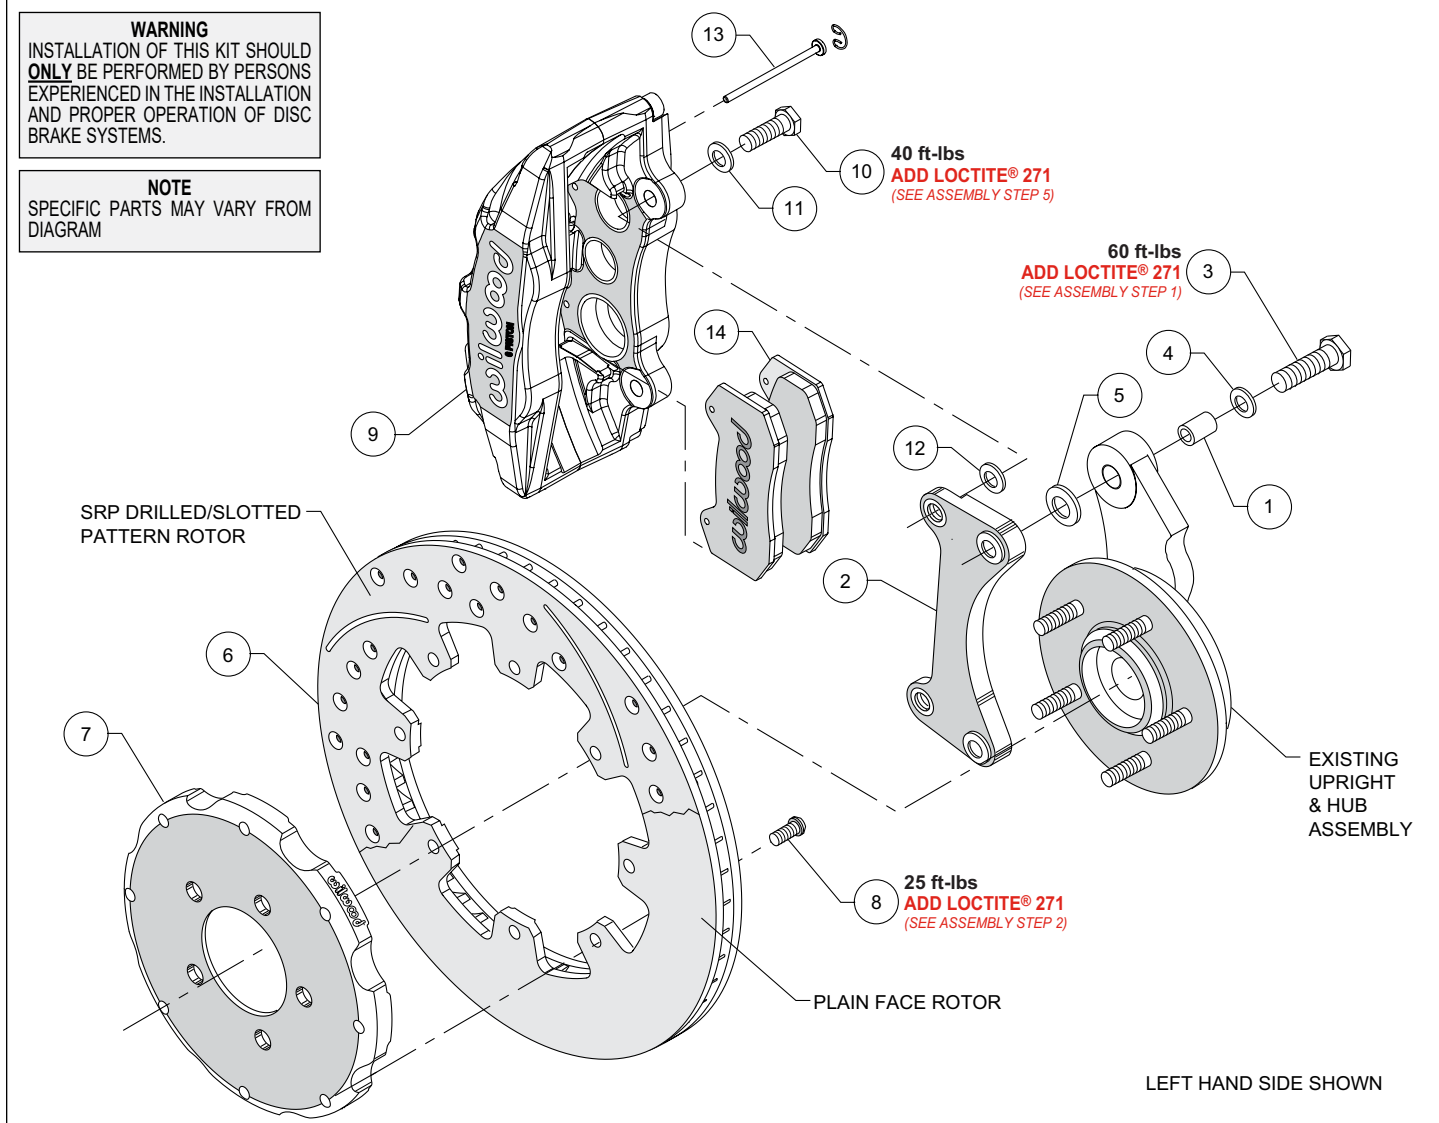
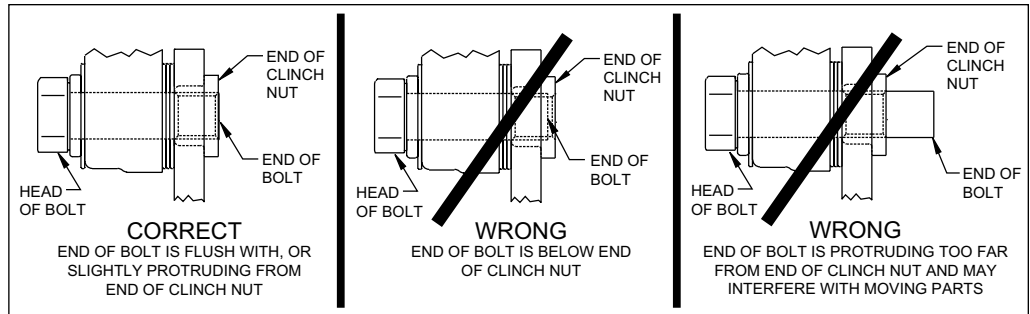

Figure 1. Typical Installation Configuration, Left Hand Application Shown
Figure 3. Clinch Nut Engagement Diagram
NOTE: Numbers in parenthesis refer to the parts list and Figure 1 on the preceding pages.
CAUTION: All mounting bolts must fully engage clinch nuts. Be sure to check that all bolts are either flush or protruding through flanged side of clinch nut after shimming, Figure 3.
STEP 1 Insert one sleeve (1) into each hole of the spindle “ears”, Figure 1. Orient the caliper mount bracket (2) as shown in Figure 1, and install using bolts (3) and washers (4). Position .125” thick spacer (5) between the spindle and bracket as shown in Figure 1. Ensure that the flanged heads of the clinch nuts in the bracket are facing outboard, Figure 1. Temporarily tighten the mounting bolts. **NOTE:** The bracket must fit squarely against the mount bosses on the upright. Inspect for interference from casting irregularities, machining ridges, burrs, etc. Remove bolts one at a time, apply red *Loctite*® 271 to the threads and torque to value shown in Figure 1.
STEP 2 Orient the rotor (6) and the hat (7) as shown in Figure 1 and Photo 1. Attach rotor to hat using bolts (8). Using an alternating sequence, apply red *Loctite*® 271 to the threads, and torque to value shown in Figure 1.
STEP 4 **NOTE:** This kit contains distinct right and left hand calipers that must be mounted in a specific direction, as described below. Mount the caliper (9) onto the caliper mounting bracket (2) using bolts (10) and washers (11), as shown in Figure 1. Initially place one .035” thick shim (12) on each bolt between the caliper and the bracket, Photo 2. Ensure that the caliper is mounted so the largest pistons are at the rotor exit end of the caliper, in relation to the direction of rotor rotation. Temporarily tighten the mounting bolts and view the rotor (6) through the top opening of the caliper. The rotor should be centered in the caliper, Photo 3. If not, adjust by adding or subtracting shims between the bracket and the caliper. Always use the same amount of shims on each of the two mounting bolts. **NOTE:** The end of each bolt must be flush with or slightly protruding from the head of the clinch nut, as shown in Figure 3. If necessary place spare shims between washer (11) and caliper mounting ear to achieve the proper clinch nut engagement. Once the caliper alignment and clinch nut engagement are correct, remove the mounting bolts and caliper.
STEP 5 Remove the two pad retaining pins (13) from the caliper (9) by carefully popping out the pin retaining clips and sliding out the pins. Insert the brake pads (14) into the caliper from the bottom, Figure 1 and Photo 4, with the friction material facing the rotor. Secure the brake pads in place with the pad retaining pins (13) and clips, Photo 5. Reinstall the caliper onto the caliper mounting bracket. Apply red *Loctite*® 271 to bolt threads (10), and torque to value shown in Figure 1.